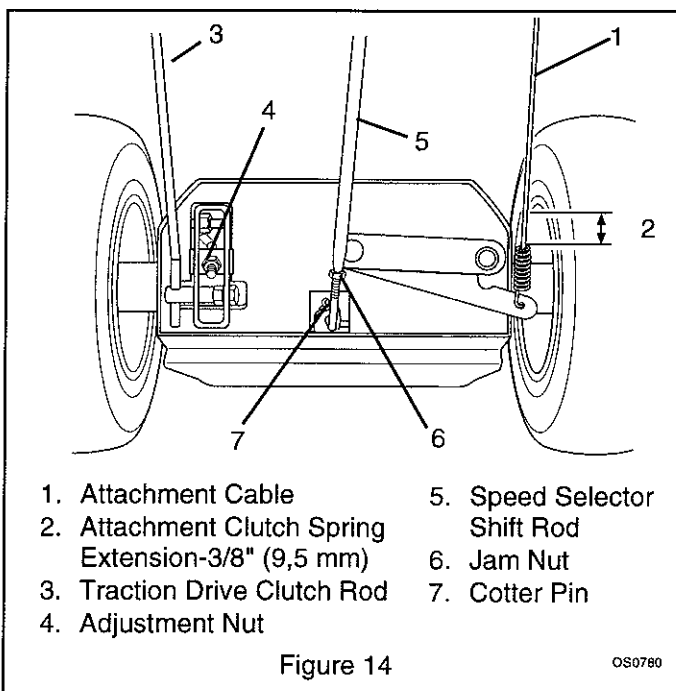

Figure 14
With traction clutch disengaged turn wheels while tightening adjustment nut (Figure 14), at clutch yoke, until wheels begin to drag. Engage and release traction clutch to align clutch linkage. Repeat as necessary. When wheel drag is obtained with linkage aligned, turn nut back three turns. Wheels will then turn freely.
2. Remove cotter pin (Figure 14) and pull shift rod out of chassis until it stops, put speed selector lever into reverse panel notch. Two notches are available, place in last notch (Figure 16).
4. Tighten jam nut (Figure 14).